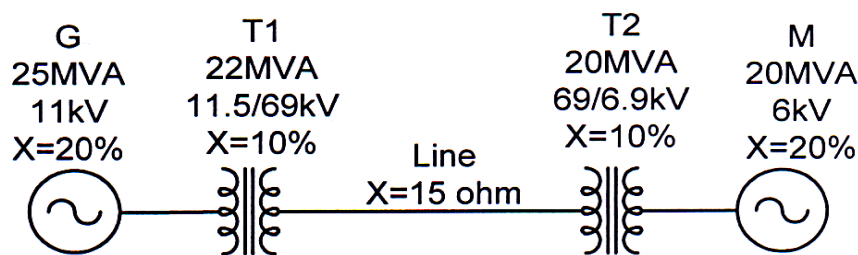

Figure 1
- Q1) a)** Take base MVA=20MVA and base kV=6kV on motor load in figure 1 and draw per-unit impedance diagram to these base values. [8]